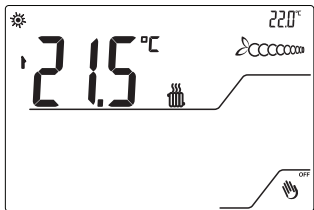

Fig.2
3.1.1 Start the display by pressing . Fig.2
3.2.1 Start display by pressing . Fig.2
4.1.1 Press  ^{OFF} Fig.2
6.1 Start display by pressing  ^{OFF}. Fig.2